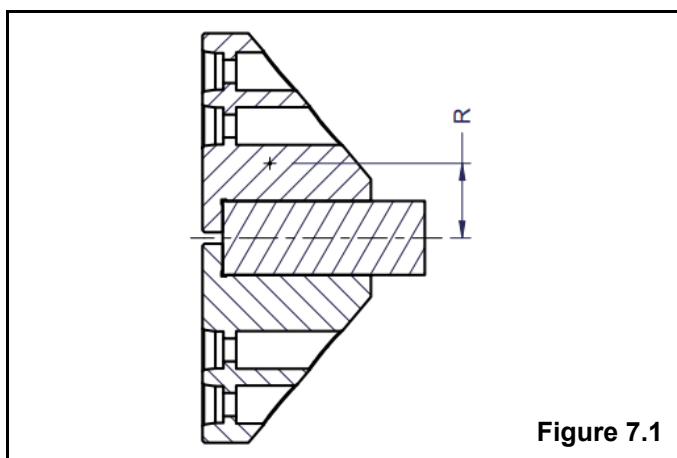

Figure 7.1
5. For external clamping applications, the mass of the top jaws should be reduced as much as possible to minimize the overall weight of the chuck. Excess weight is typically removed at the largest radius. Refer to Figure 7.1.